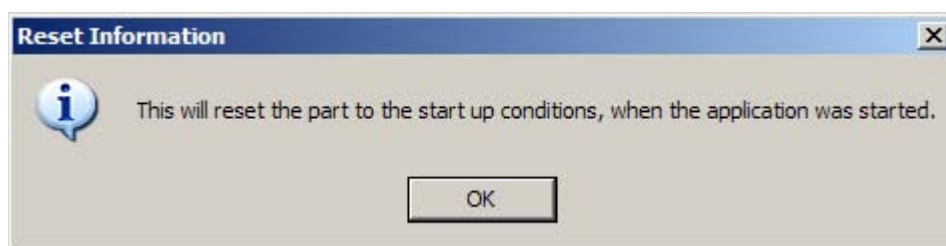

Figure 27. Reset Information
- 5) If the Reset Enabled check box is selected, it will assert a global reset of the sensor controller. When the user writes to the register, an information window will pop up stating that the part will be reset to start up conditions (Figure 27).